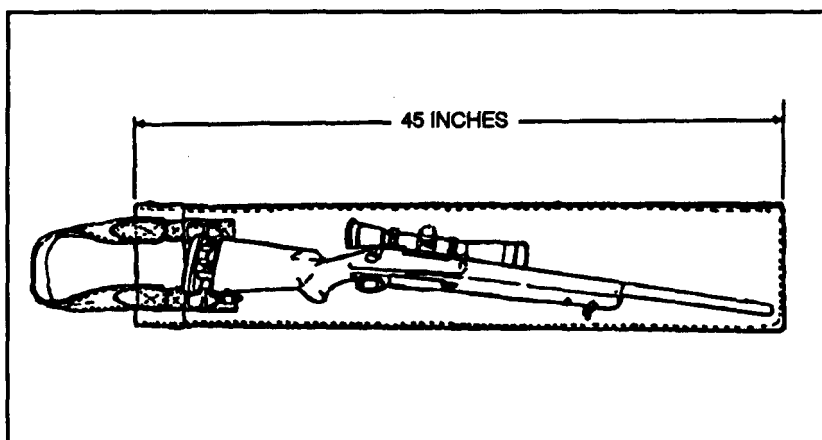

Figure 4-2. Drag bag.
(1) **Rifles.** The sniper weapon system and the M16/M203 should also be camouflaged to break up their outlines. The sniper weapon system can be carried in a "drag bag" (Figure 4-2), which is a rifle case made of canvas and covered with garnish similar to the ghillie suit.